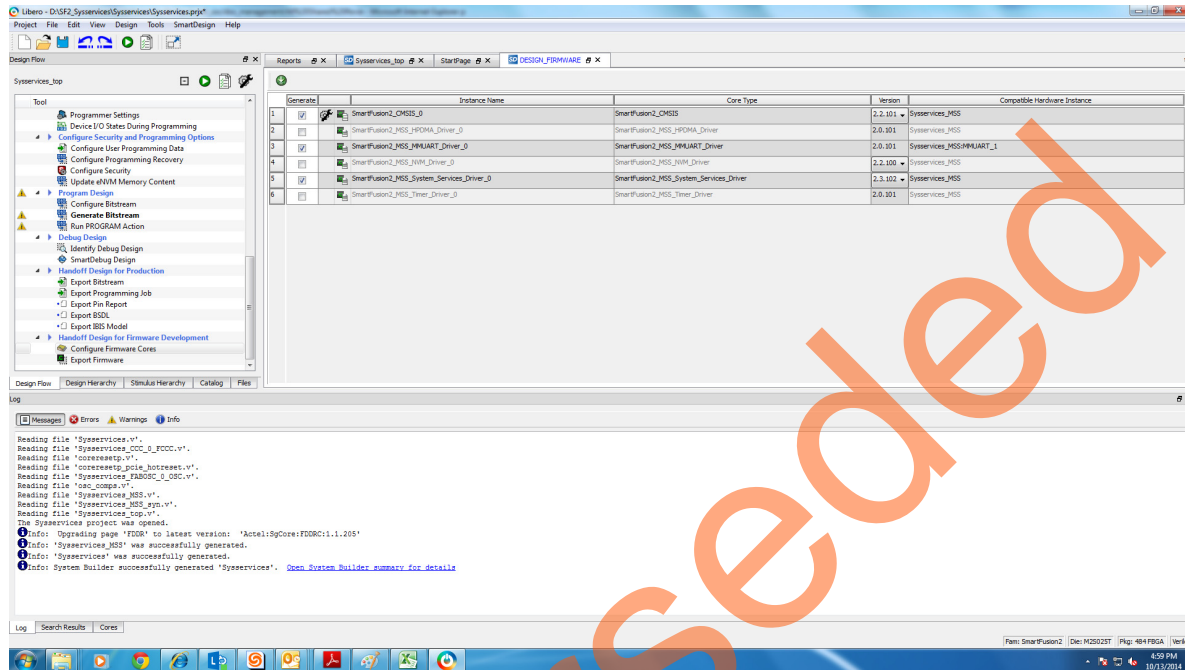

Figure 12 • DESIGN_FIRMWARE Window
2. Clear all drivers except CMSIS, MMUART_0, and System Services as shown in Figure 12.